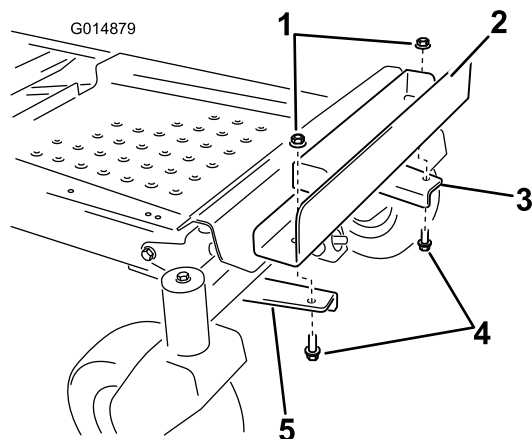

Figure 6
6. Install the weight holding bracket to the mounting brackets (Figure 6). Align the inboard holes in the bracket with the mounting brackets installed previously. Make sure the bracket is centered on the frame. Secure with two bolts (3/8 x 1 inch) and two lock nuts (3/8 inch).